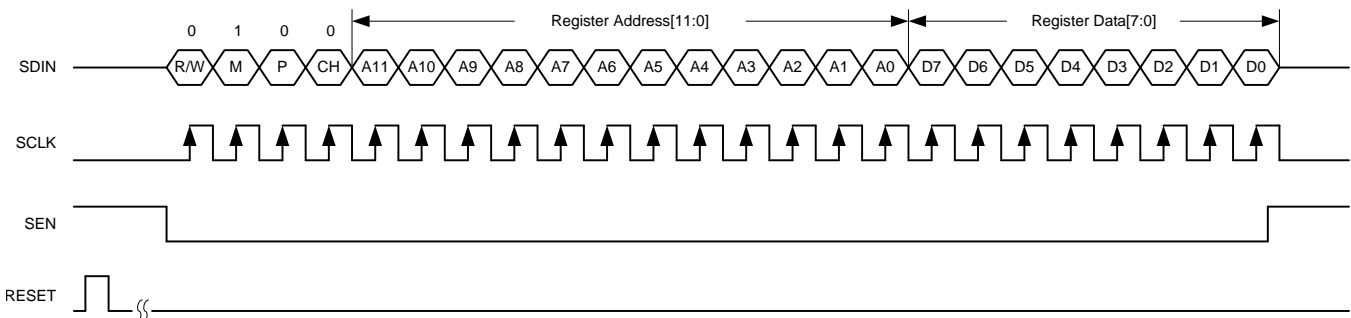

Figure 69. SPI Page Selection
2. Setting the M bit to 1 and specifying the page with two register writes. Note that the P bit must be set to 0, as shown in Figure 69.